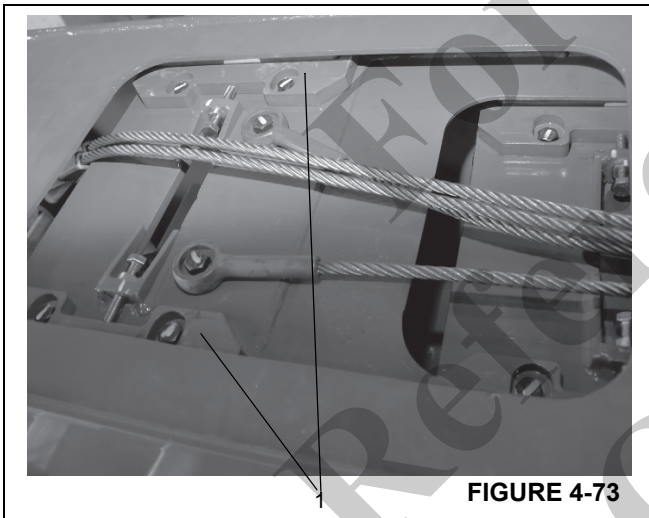

FIGURE 4-73
- 22. Install the adjustable wear pads (Figure 4-73, 1) to the top of the base end of the Inner Mid section.